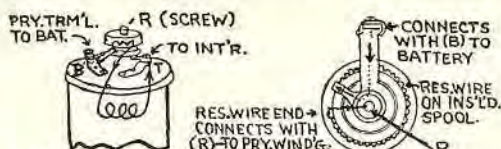

FIG. 13A. TOP OF REMY COIL FIG. 13B. BOTTOM VIEW RES. UNIT
If current cannot be passed to coil through the regular terminals, it may be suspected that the resistance unit is burned out. This can be determined by touching a test wire to the central nut (R, Fig. 13A), which holds the unit in position. This has the effect of cutting the unit out completely and sending the current directly to the primary windings. If current does not flow, the indication is that there is a break between the resistance-unit screw (R) and the end of the coil winding inside the coil.